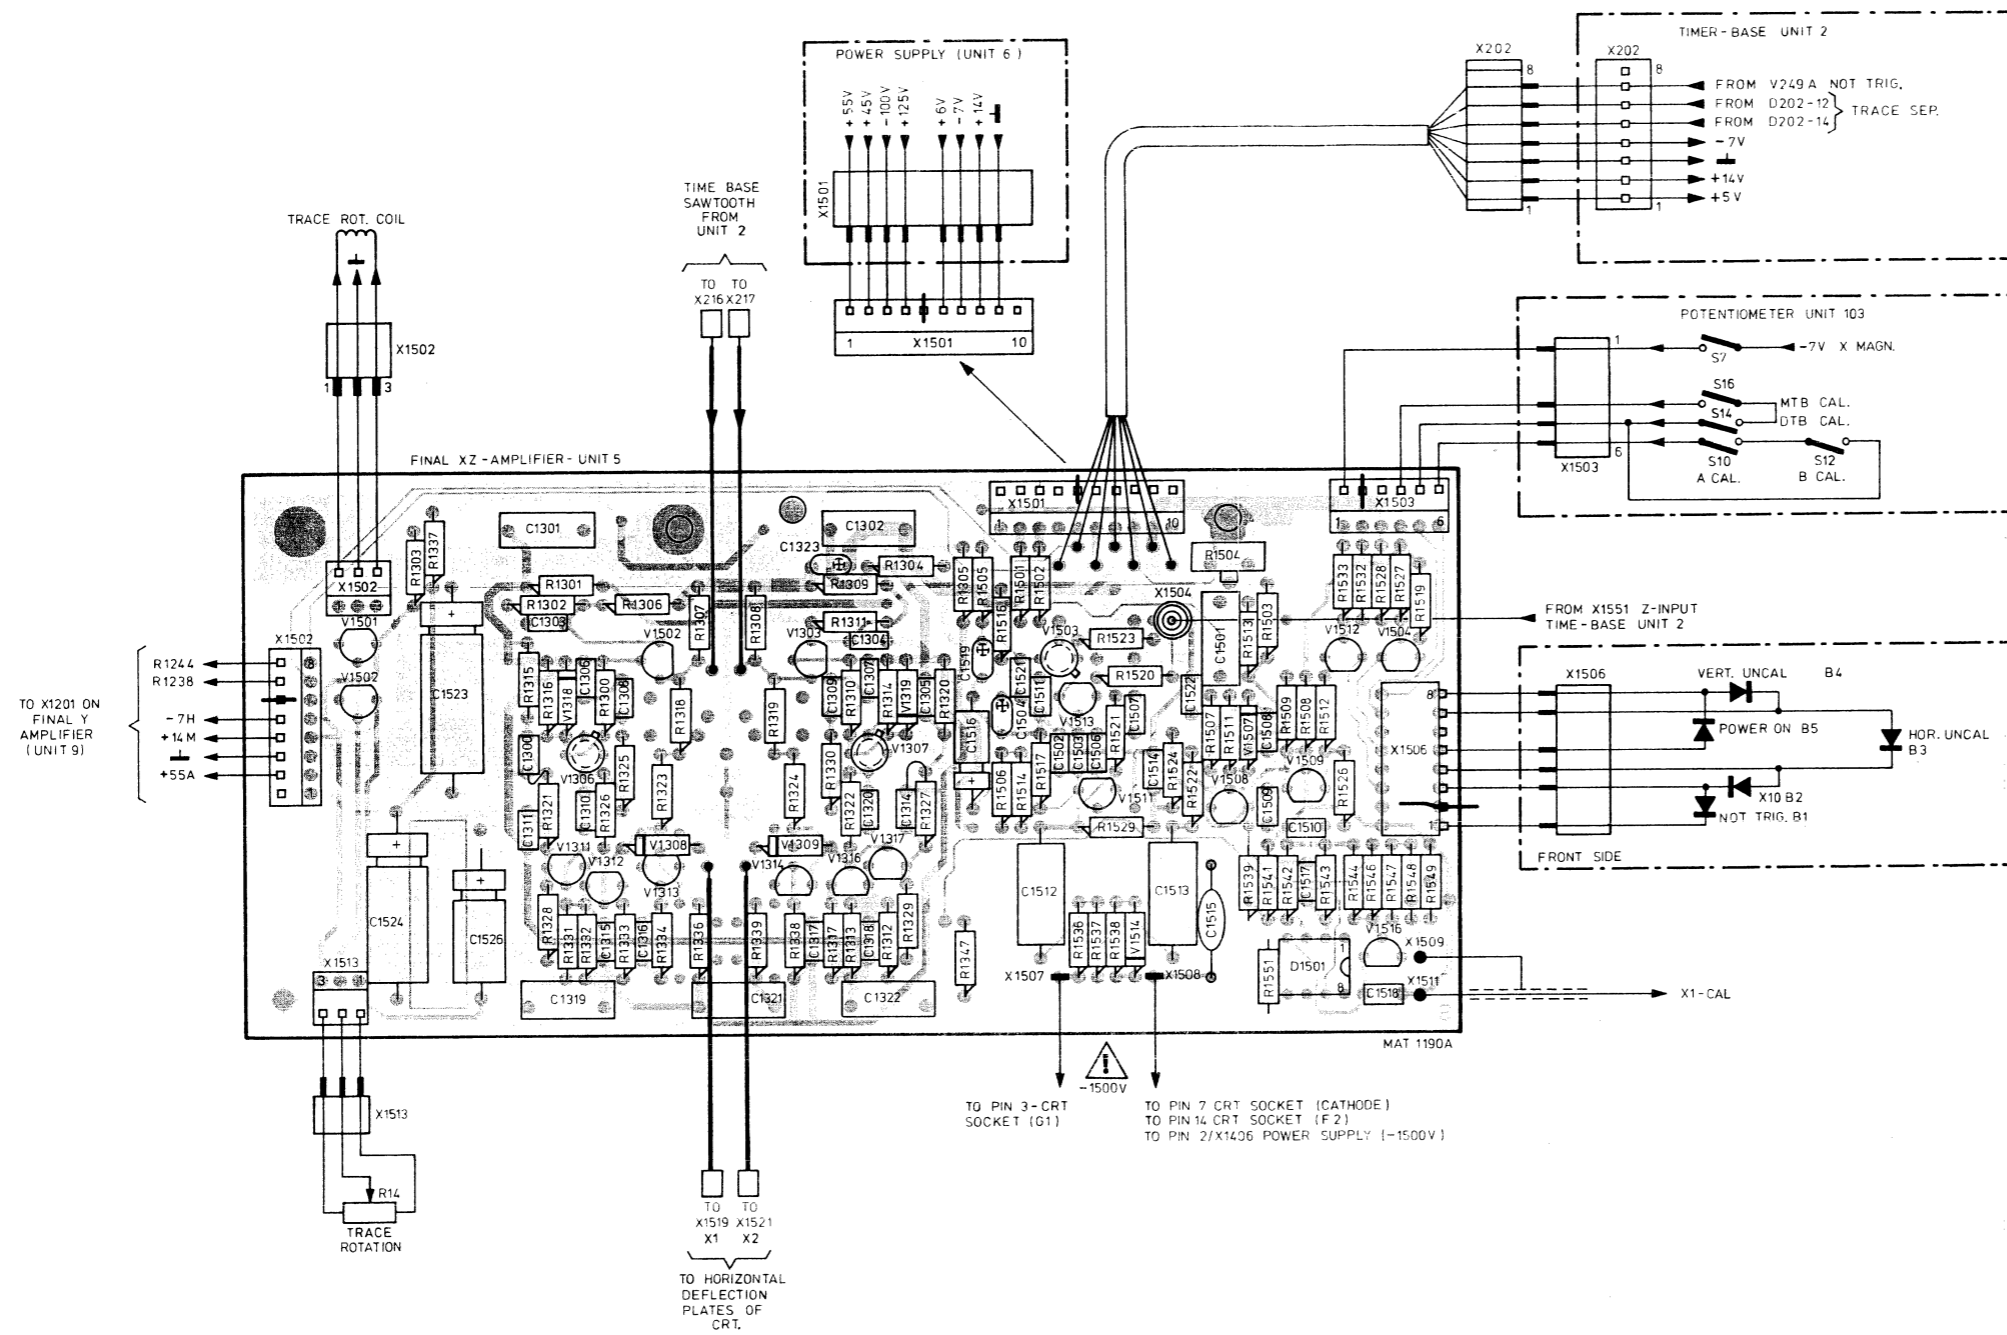

Fig. 3. Final X/Z amplifier, p.c.b. lay out.
- Unit 5: final X/Z amplifier (see fig. 3).